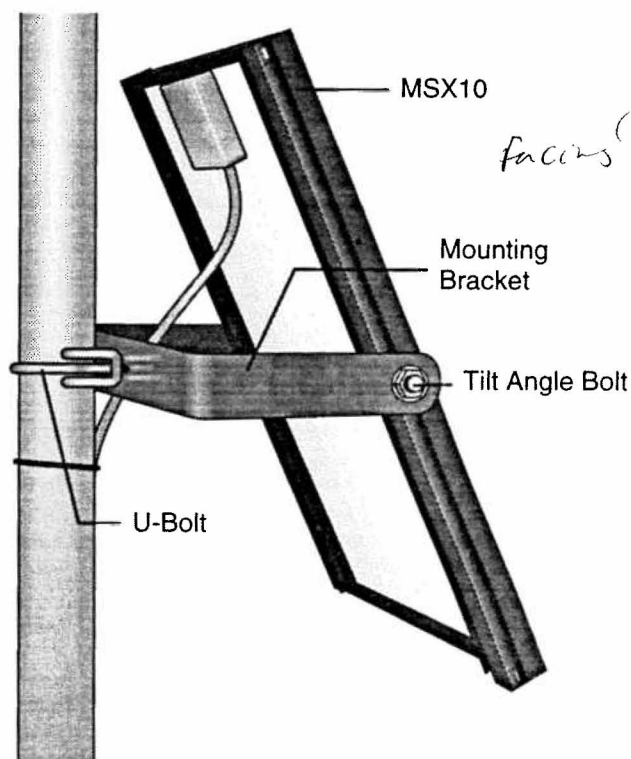

FIGURE 7-6. MSX10 Solar Panel
1. Mount the MSX10 (or MSX5) solar panel to the CM10 mast as shown in Figure 7-6. When used with the CM6, the solar panel may have to be mounted to a vertical pipe adjacent to the tripod, depending on the available mast space.
2. Position the MSX10 on the south side of the mast (northern hemisphere) with the top of the mounting bracket 9" down from the top of the bell reducer (CM10). Install the U-bolt, muffler clamp, and nuts as shown in Figure 7-6.